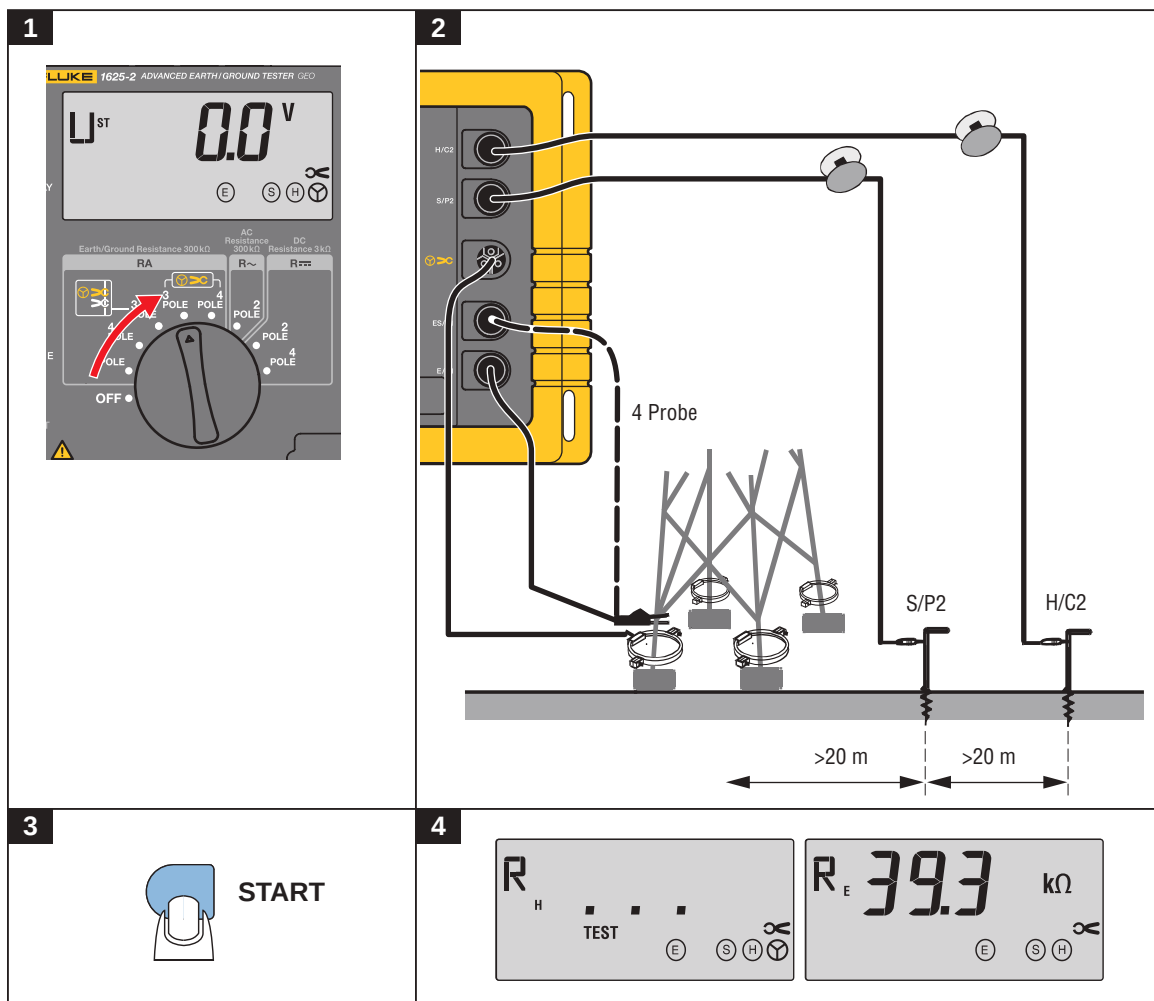

Figure 7. Earthing Resistance without Disengaging the Overhead Earth Wire
The new measuring method employed in this instrument - with its external current transformer to measure the true current flowing through the earth electrode - allows measurements of earth electrode resistances without disconnection of the earthing system or disengaging the overhead earth wire. See Figure 7.
1. Turn central rotary switch to position "**⚡CR_E 3pole**" or "**⚡CR_E 4pole**". The instrument is wired according Figure 7 and messages on the display.